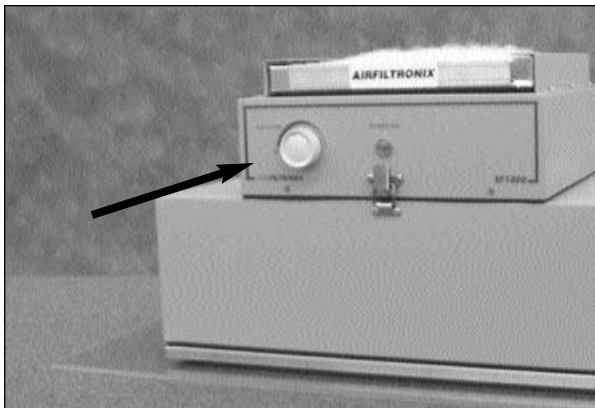

Figure 9
8. Rotate the knob on the front of the blower in a clockwise direction to turn the blower on and set the blower speed. The maximum setting for the blower is in the fully counter clockwise direction just before turning off. In the fully clockwise position the blower speed is approximately 30% of maximum setting (figure 9).